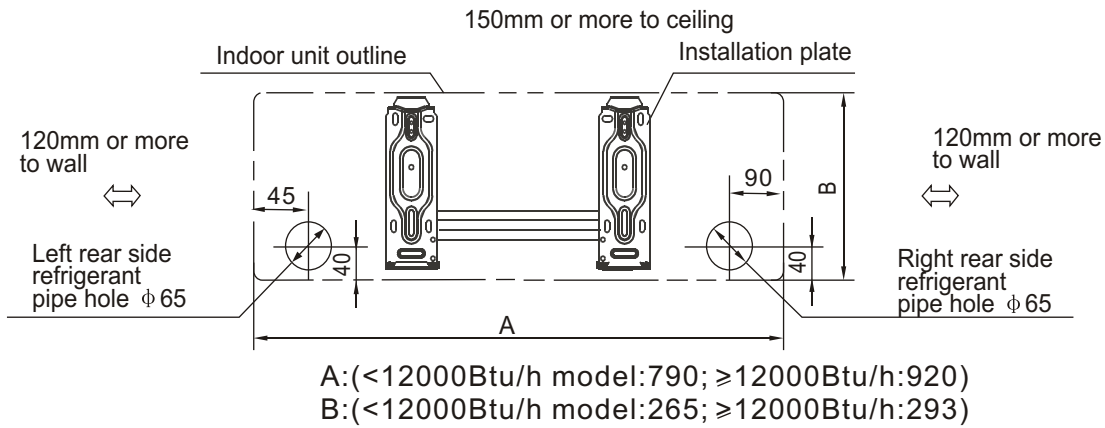

Fig.5
1. Determine hole positions according to the diagram detailed in Fig.5. Drill one (1) hole (φ65mm) slanting slightly to outdoor side.